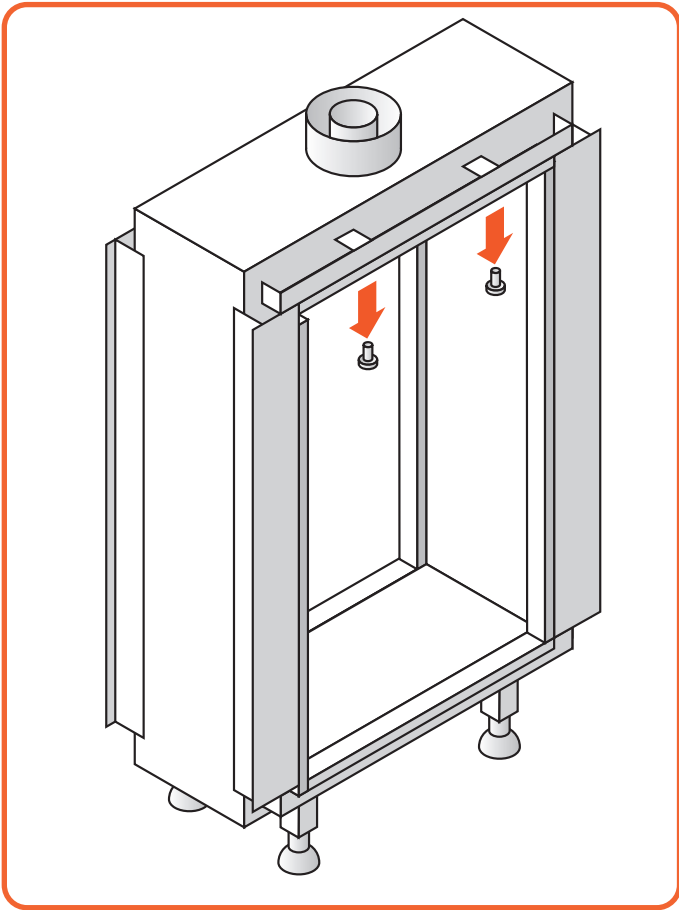

Figure 11.2 | Remove screws upper trim
- Remove the screws from the upper trim, see Figure 11.2